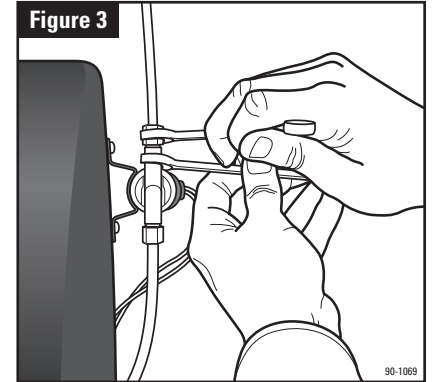

Figure 3
9. Run 1/4" copper tubing from saddle valve to solenoid valve. **DOUBLE-WRENCH TO PREVENT LEAKING.** See Figure 3.